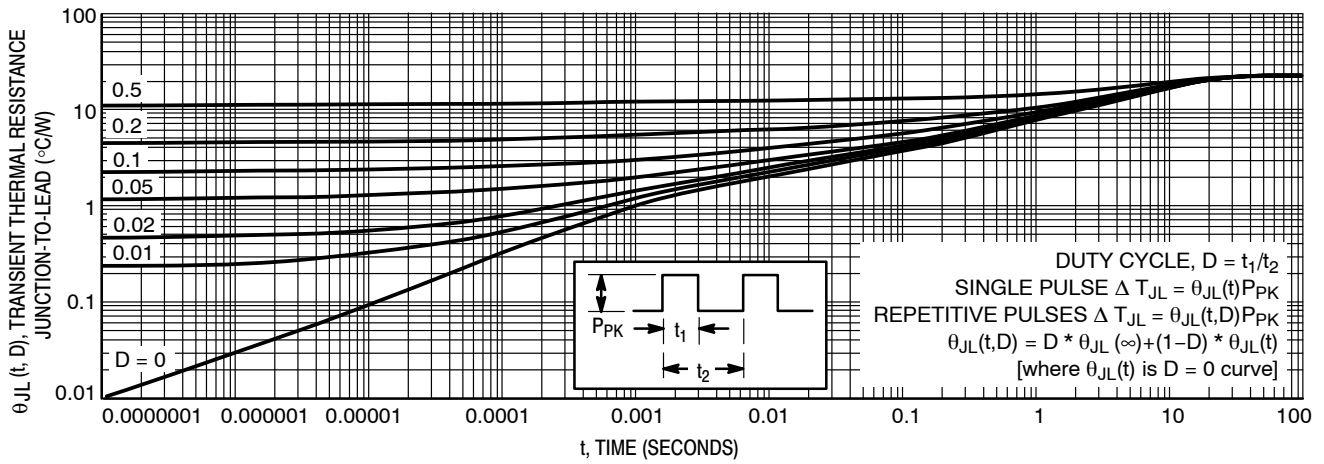
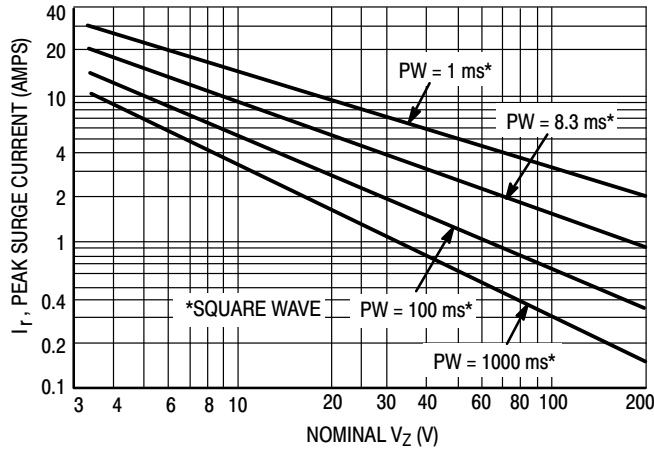
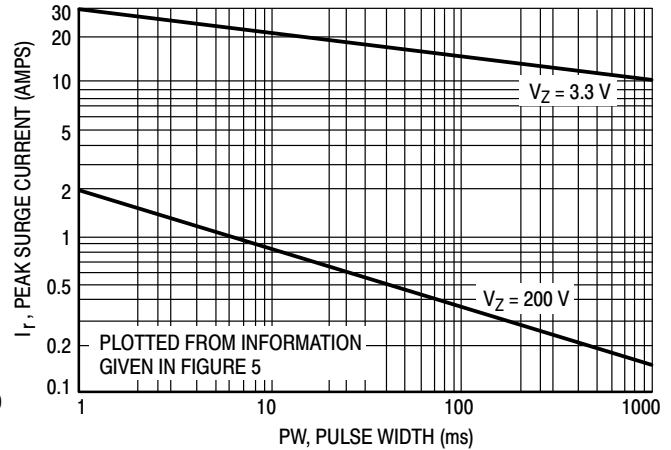

Figure 4. Typical Thermal Response
Figure 5. Maximum Non-Repetitive Surge Current
Figure 6. Peak Surge Current versus Pulse Width
- SURGE CURRENT (I_R):** Surge current is specified as the maximum allowable peak, non-recurrent square-wave current with a pulse width, PW, of 8.3 ms. The data given in Figure 5 may be used to find the maximum surge current for a square wave of any pulse width between 1 ms and 1000 ms by plotting the applicable points on logarithmic paper. Examples of this, using the 3.3 V and 200 V zener are shown in Figure 6. Mounting contact located as specified in Note 2 ($T_A = 25^\circ\text{C} + 8^\circ\text{C}, -2^\circ\text{C}$).
- SURGE CURRENT (I_R):** Surge current is specified as the maximum allowable peak, non-recurrent square-wave current with a pulse width, PW, of 8.3 ms. The data given in Figure 5 may be used to find the maximum surge current for a square wave of any pulse width between 1 ms and 1000 ms by plotting the applicable points on logarithmic paper. Examples of this, using the 3.3 V and 200 V zener are shown in Figure 6. Mounting contact located as specified in Note 7 ($T_A = 25^\circ\text{C} + 8^\circ\text{C}, -2^\circ\text{C}$).
ΔT_{JL} is the increase in junction temperature above the lead temperature and may be found from Figure 4 for a train of power pulses or from Figure 1 for dc power.
Data of Figure 4 should not be used to compute surge capability. Surge limitations are given in Figure 5. They are lower than would be expected by considering only junction temperature, as current crowding effects cause temperatures to be extremely high in small spots resulting in device degradation should the limits of Figure 5 be exceeded.